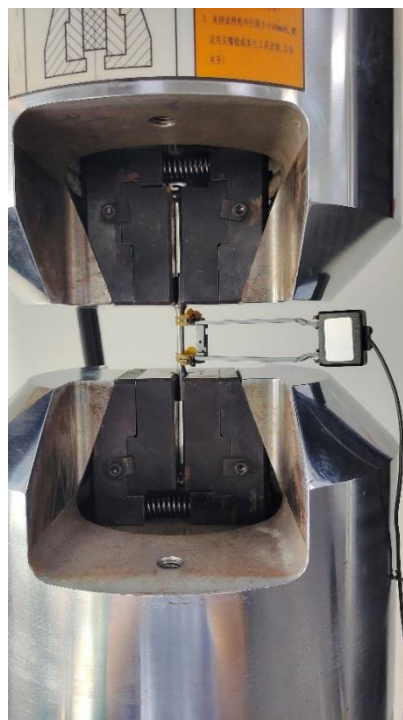

Figure 5 Sample placement
3) Select the appropriate fixture, set the limiting device according to the test length and the spacing of the fixture, and bind the extensometer to the sample (see FIG 5).